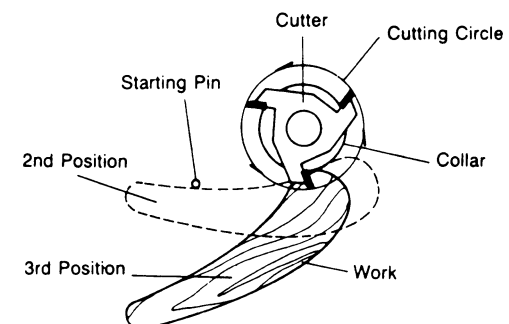

Fig. 18
2. After the cut has been started, the work is swung free of the starting pin and rides only against the collar as shown in the third position in figure 18. Always feed against the action of the cutter.